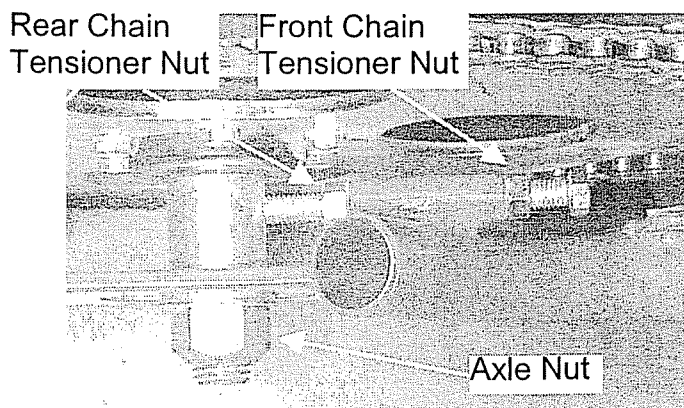

Figure 2: Right Side Chain Tensioner
3. Loosen the rear Axle Nuts (PN 9162) approximately one turn. See Figure 2.